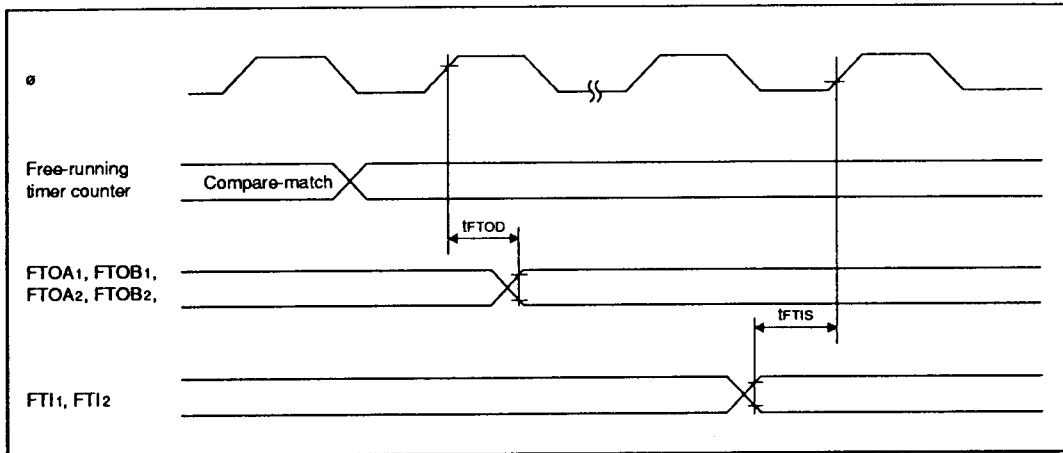

Figure 19-15 Free-Running Timer Input/Output Timing
19.3.5 16-Bit Free-Running Timer Timing	Figures 19-15 and 19-16